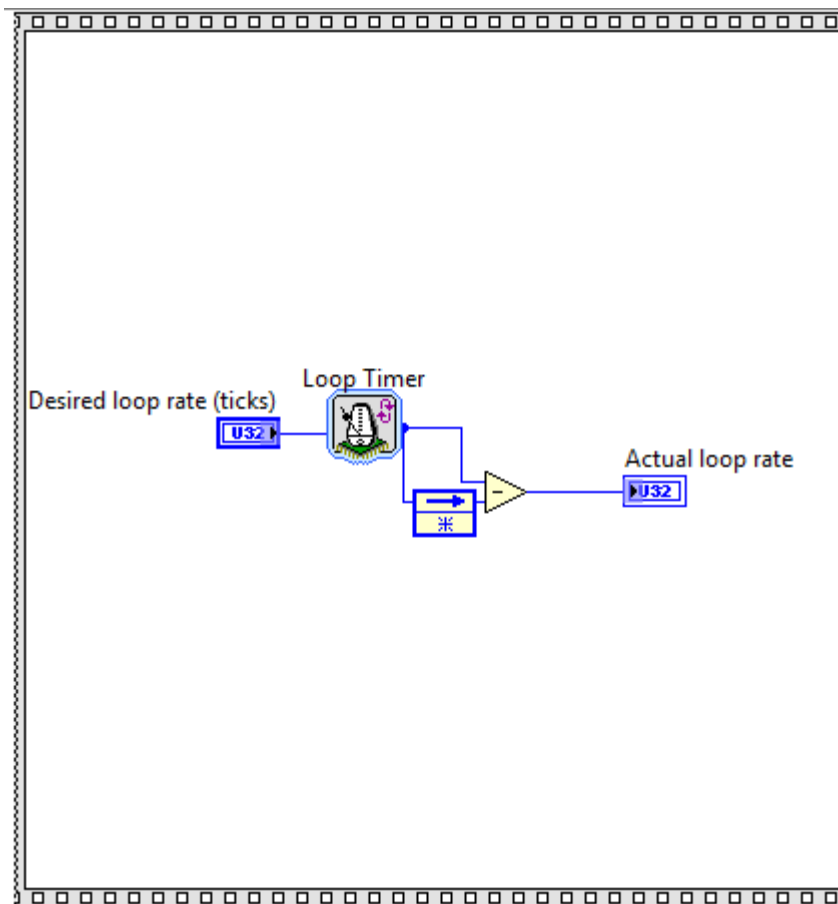

Fig. 2. FPGA Timing Loop.
- 4) Select the Block Diagram. From the **Functions** select the **Flat Sequence Structure** and place on the block diagram. Inside the **first cell**, place the following timing loop in Fig. 2.